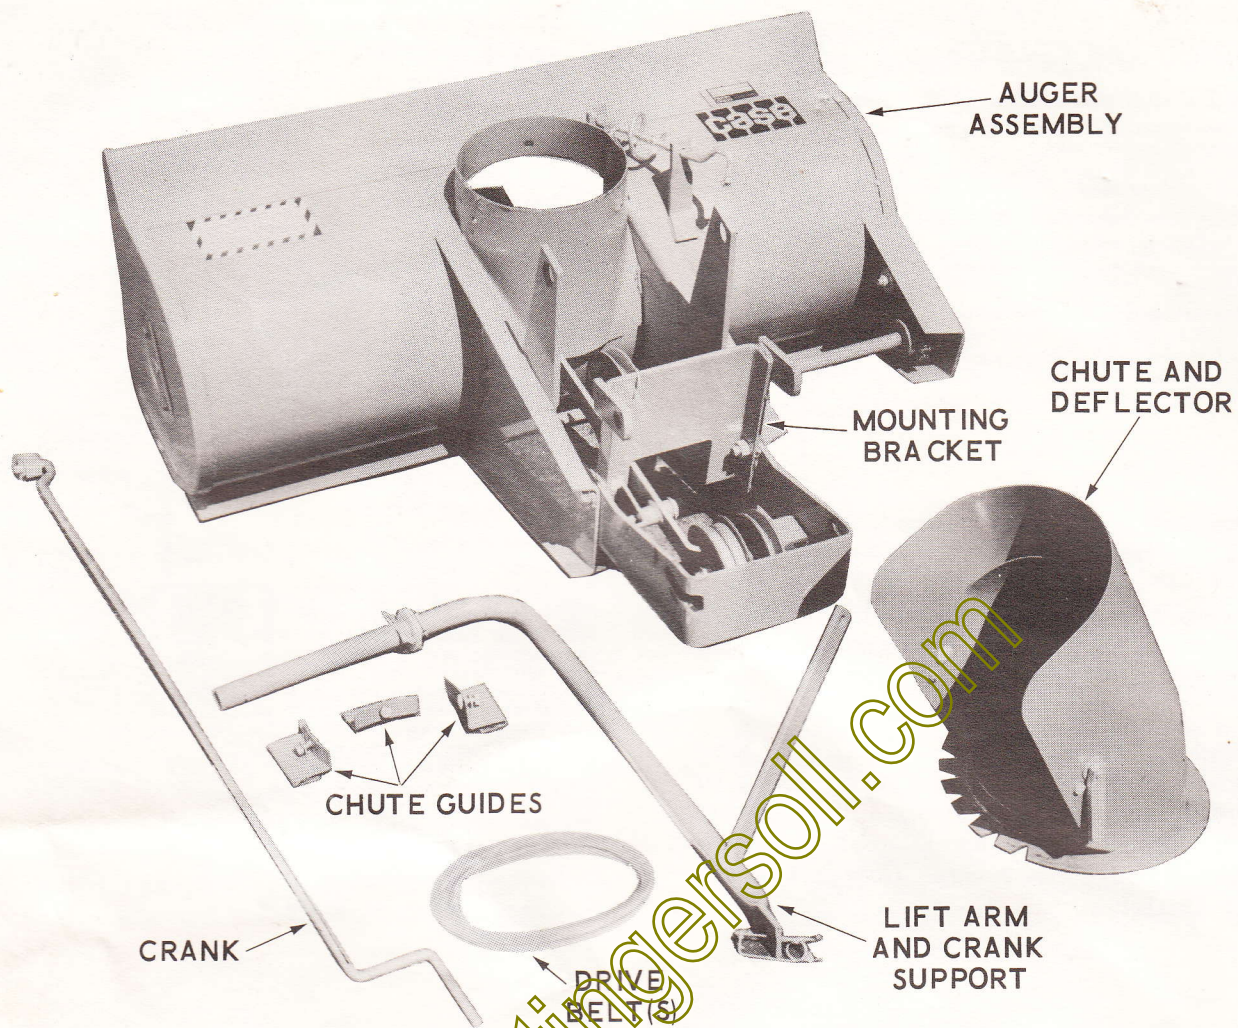

Figure 10.
- B. Before attaching the snow blower, lay out the individual parts as illustrated in Figure 10. To simplify the original
Position the Mounting Bracket between the Auger Adapter Plates as shown in Figure 10. Insert a spacer in each of the Adapter Plates. Bolt the Mounting Bracket to the Adapter Plates with the plain washers to the outside and lock nuts at the inside.